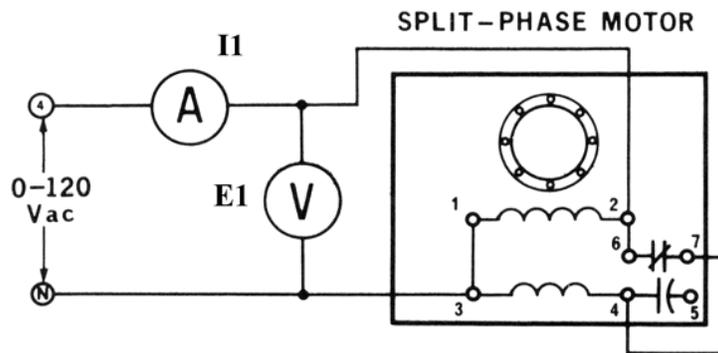

Figure 6-6
11) Connect the circuit as shown in Figure 6-6.